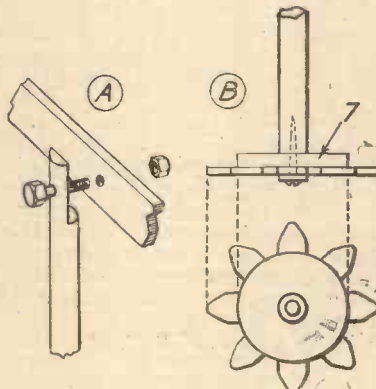

Fig. 2.—Details of cross-bar fixing, and cog-wheels.
The vertical axle (4), 1ft. 6in. long, should be a metal rod for easy turning in the bearings, but a length of stiff wooden dowel can be used. In both cases the top is flattened as shown in A, Fig. 2, and the cross-bar attached with a suitable bolt. Put a large washer at the bar side of the joint so that there will be a good bearing surface on the wood.
The main thing here is they have to be the same size so that a complete revolution of the vane gives a complete turn of the pointer on the dial. They are 2in. dia. and are cut out of tin or zinc reinforced at the one side by the circular blocks (7); this is shown in B, Fig. 2. Scribe out the cogs carefully first and then cut with clippers. It does not matter if the tin curls a bit in doing this, as it can be straightened out against the blocks.